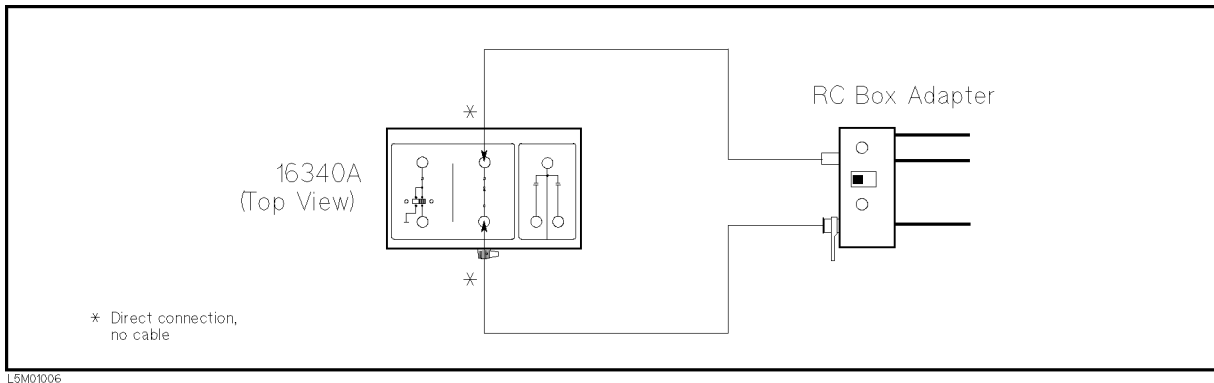

Figure 9-5. RC Box Connection
12. Connect the RC Box to the RC Box Adapter as shown in Figure 9-5.